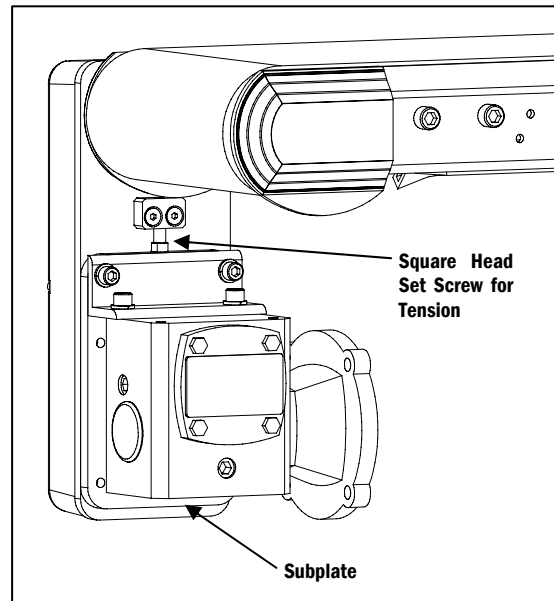

Figure 6
⑤ Prepare for operation
a. Tension the Timing Belt (or Chain) by running out the Square Head Set Screw to move the Subplate away from the conveyor (**Figure 6**).